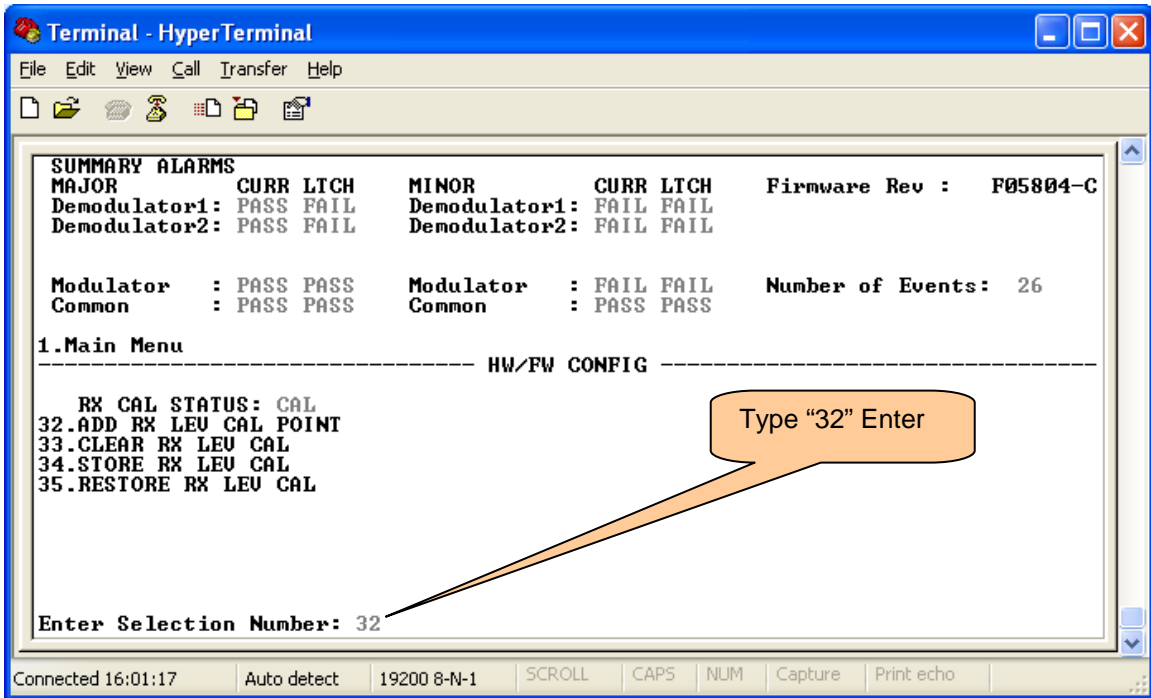
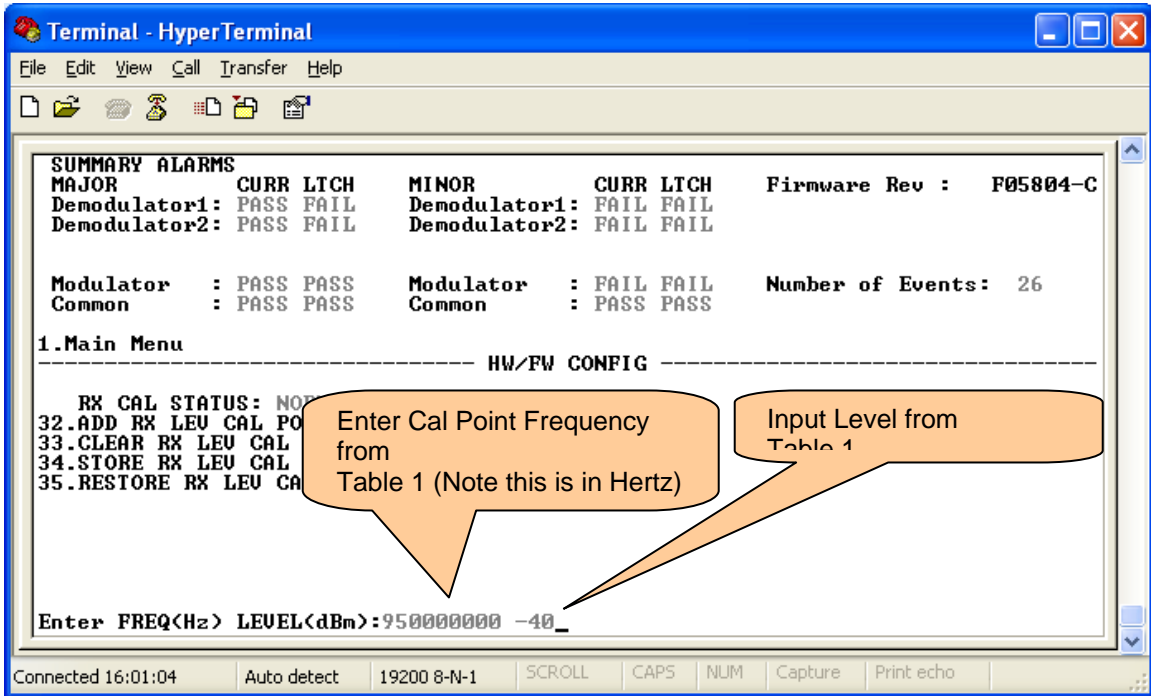

Figure 31 – Entering a New Calibration Point
Figure 32 – Calibration Point Entry
4. Enter a calibration point on the unit to be calibrated by entering a new calibration point "32" <Enter> <Freq (Hz) Level (dBm)> <Enter>, see Figure 31 and Figure 32.